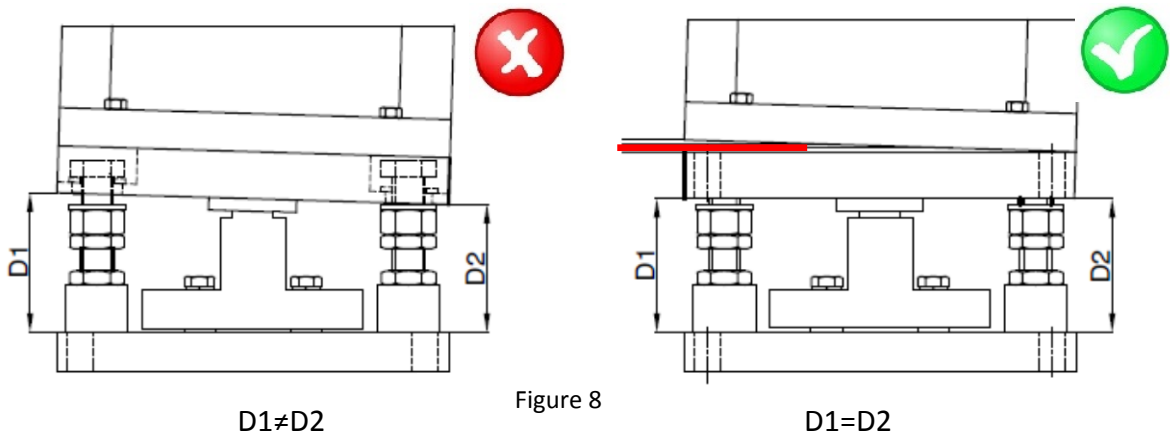

Figure 8
8. IF THERE IS A DEVIATION BETWEEN D1, D2 AND D3, THEN WE SHOULD PLACE METAL SHIMS OF DIFFERENT WIDTH (1, 2 or 3mm) BETWEEN THE LEG OF THE TANK AND THE TOP PLATE TO GET THE NECESSARY PARALLELISM FOR A CORRECT INSTALLATION (Figure 8).